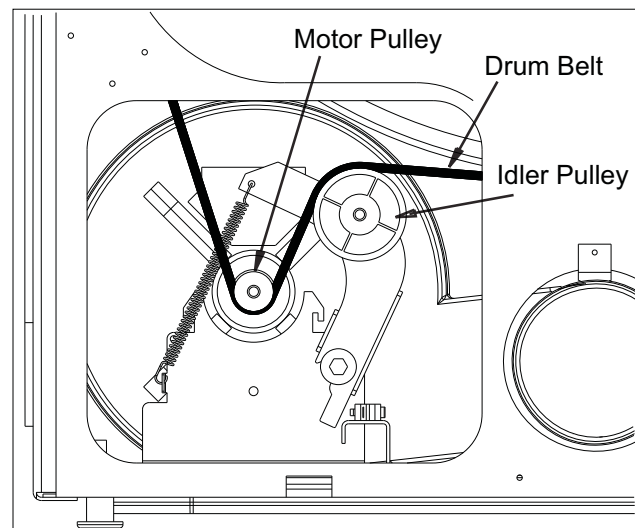

Figure 1
3. Remove the louvered vent panel on the rear of the dryer. Disengage the drum belt by rotating the idler pulley down and away from the motor. Slide the belt off of the pulleys. (Figure 1)